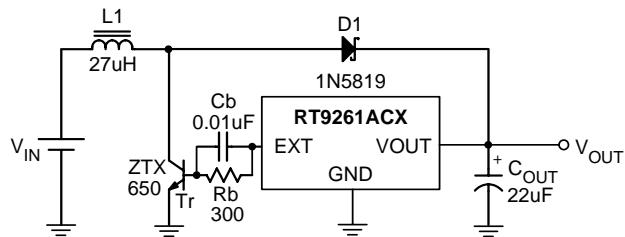

Figure 2
(1) Unless otherwise provided,  $V_{IN} = 1.8\text{V}$ ,  $V_{SS} = 0\text{V}$ ,  $I_{OUT} = 10\text{mA}$ ,  $T_{OPT} = 25^\circ C$ , and External Circuit of Typical Application
(2) Unless otherwise provided,  $V_{IN} = 3\text{V}$ ,  $V_{SS} = 0\text{V}$ ,  $I_{OUT} = 10\text{mA}$ ,  $T_{OPT} = 25^\circ C$ , and External Circuit of Typical Application
**Electrical Characteristics** (Refer to Figure 2)